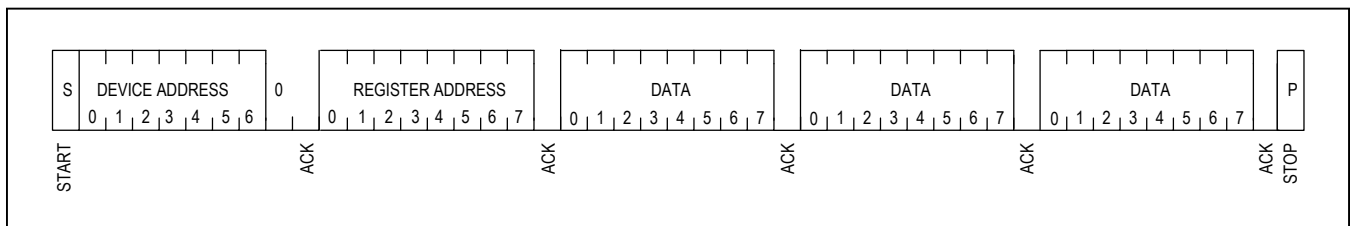

Figure 26. 3-Byte Data Write (24-Bit Register Write)
Following the START (S) condition from the master, the device address (7 bits) and the R/W bit (logic-low for write) are clocked onto the bus by the master. This indicates to the addressed slave receiver that the register address will follow after it has generated an acknowledge bit (A) during the ninth clock cycle. Therefore, the next byte transmitted by the master is the register address and will be written into the address pointer of the MAX78615+PPM. After receiving another acknowledge (A) signal from the MAX78615+PPM, the master device transmits the data byte(s) to be written into the addressed memory location. The data transfer ends when the master generates a stop (P) condition. This initiates the internal write cycle. Figure 26 shows a 3-byte data write (24-bit register write).